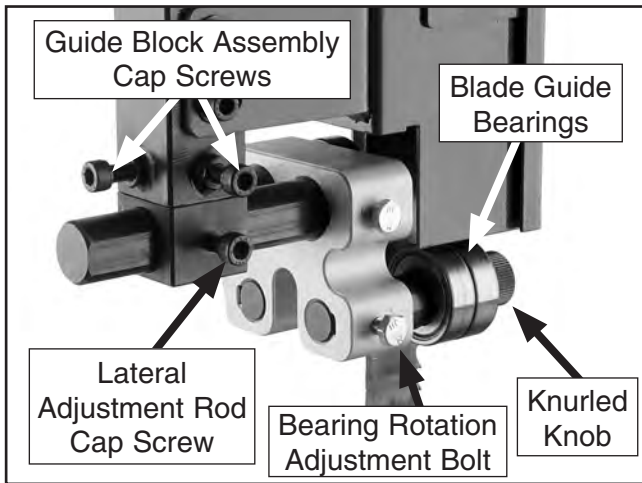

Figure 22. Upper blade guide controls (rear view).
3. Familiarize yourself with blade guide controls shown in **Figures 22 & 23**.
3. Familiarize yourself with upper support bearing controls shown in **Figure 22 & 23**.